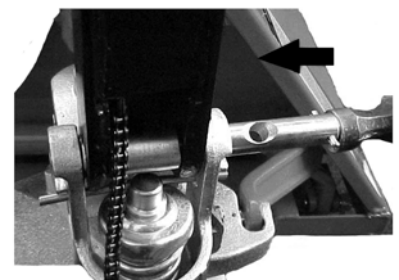

Fig. 6: Axle assembling
- Insert the tiller arm(1) into the pump piston, then use a hammer to insert the axle with hole into the hydraulic pump and tiller arm (fig.6).